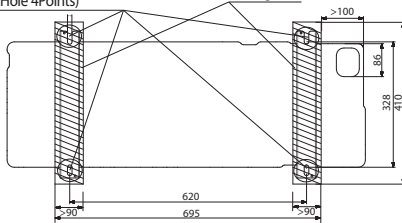

Figure 1
- ▶ As shown in Figure 1, to ensure the shadow part is on the bearing surface without suspension.
- ▶ As shown in Figure 1, the four installation footings shall be firmly fastened on the base platform by the bolts (preparing four sets of M12 bolts with fitful nuts and washer which are used on site)
- ▶ Please ensure the shadow part in Figure 1 is really installed on the bearing surface without any suspension.
- ▶ The ground base that is larger than the standing leg of the air-conditioner (90mm in width and 410mm in length) shall be used to support the air-conditioner (See Figure 1), and the rubber mat shall be fully placed on the whole bearing surface.
- The installation mode mentioned above shall ensure that the shadow part in Figure 1 is really on the installation surface.